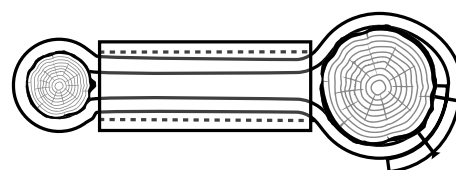

Fig 16
3) We suggest making the top strapping assembly first by using 38 mm (1 $\frac{3}{4}$ inches) Easy Flex Strapping (fig17) which will allow the top of the tree stem some slight flexibility to allow the tree to develop its own resistance to wind loadings and reduce the risk of wind damage to the stem once the tying system has been removed. This top strapping needs to be positioned about 25 mm (1 inch) below the top of the fixing stakes and we need to form a figure '8' shape between each of the two stakes and the tree separately by passing the Easy Flex strapping around the tree then both ends of the strap through a Jumbo Spacer (fig18) cut to the required length which is the distance between the stake and the tree less 100 mm (4 inches). We then continue with the straps out of the Spacer and then around the outside of the tree stake and fix the strap to the outside of the stake using two flat head galvanised clout or roofing nails making sure they both go through both ends of the strap and through one of the pre formed and reinforced nail holes (fig16). Repeat this process for the remaining further two stakes top strapping position, again using the more flexible Easy Flex Strapping, making sure the tree is held firmly in position by these three straps once the top assembly has been completed. We can now complete the assembly repeating this process for the lower strapping at a height halfway between the top strapping level and ground level but using the 38 mm (1 $\frac{3}{4}$ inches) Easy Fix Strapping (fig12) product to provide a very stable lower stem to protect the root ball effectively.